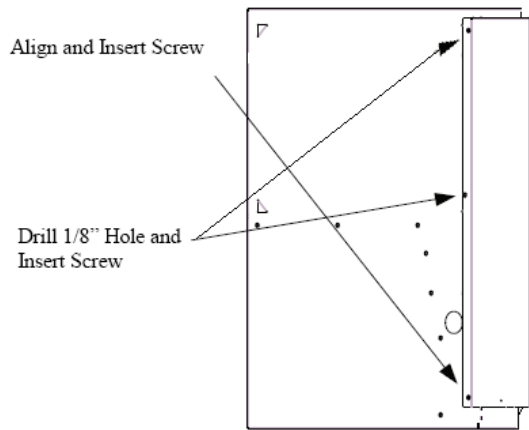

Fig. 4 - Install Guard Back
5. Position the Guard Back on the casing side, aligning the bottom hole in the Guard Back flange with the drilled hole in the furnace casing (See Fig. 4.) Secure the Guard Back to the casing with a screw.
6. While assuring the flange is parallel with the front edge of the furnace, drill 1/8" holes through the furnace casing at the center and top Guard Back flange hole locations. Insert screws and tighten. (See Fig. 4.)